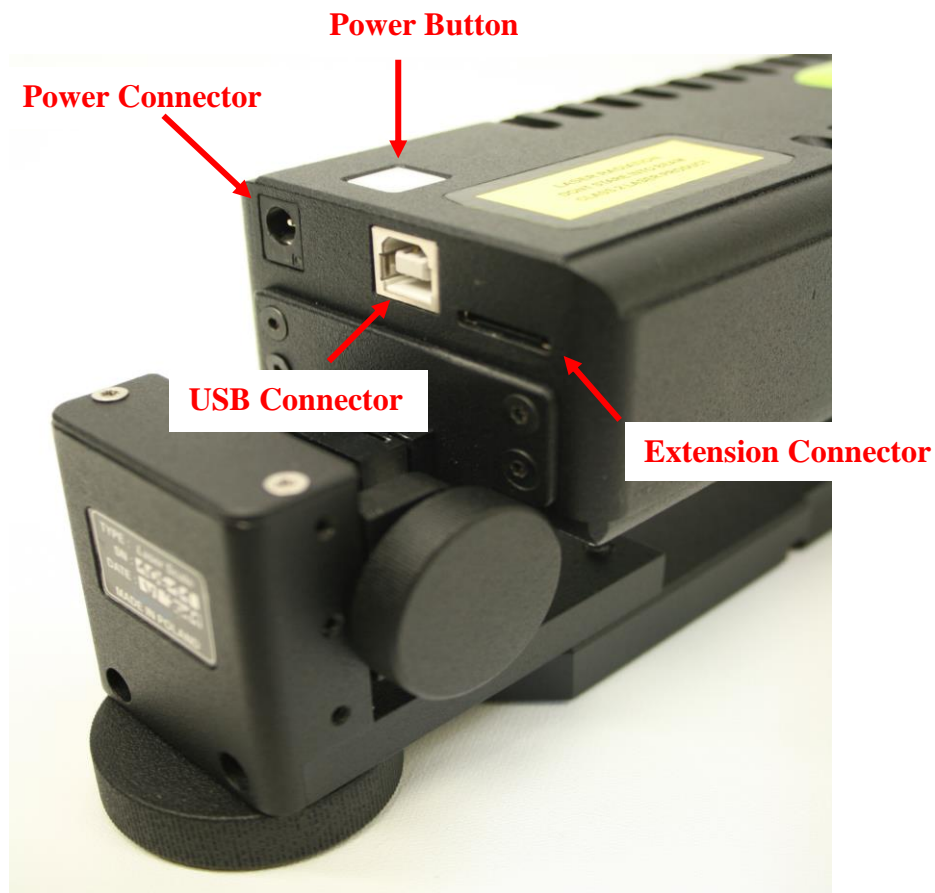
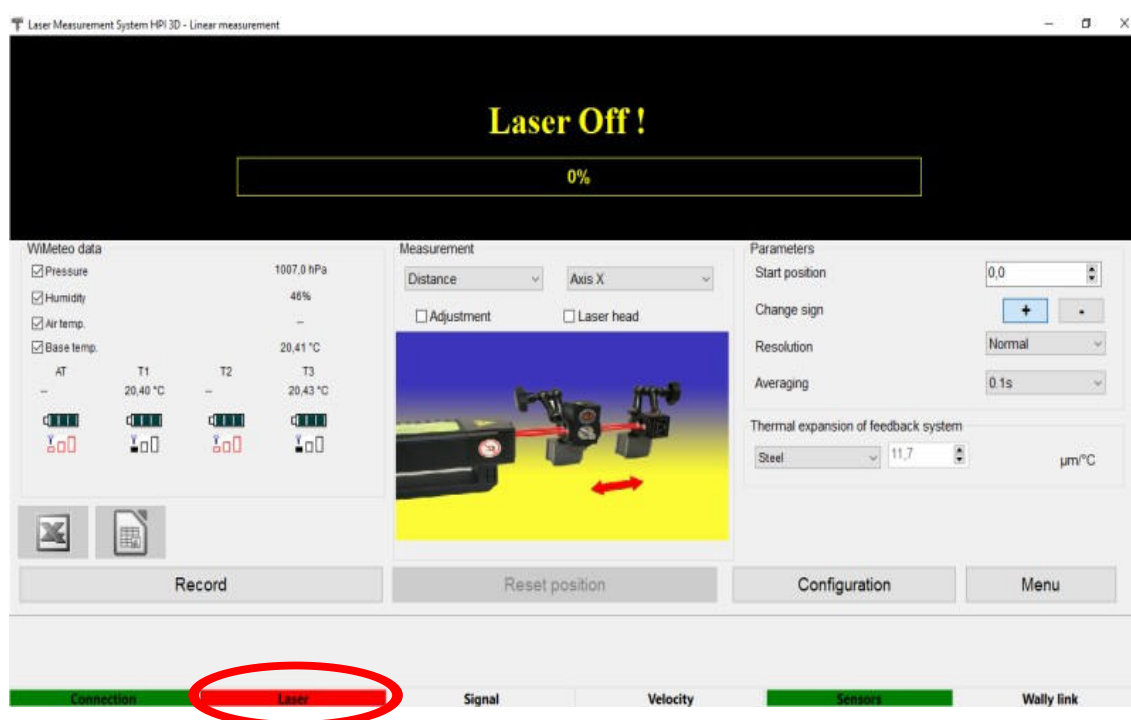

FIG.3.19. CONNECTIONS OF THE HPI-3D.
FIG.3.20. POWER SWITCH OF THE HPI-3D
If the USB connection is used then the USB cable (10) should be connected to the male socket on the back panel of the Laser Head (fig. 3.19). The second end of the cable should be plugged into the USB socket of a PC computer. For the Bluetooth connection only power connection is necessary.
The HPI-3D has only one soft-switch on the top of the laser head. Starting the laser is possible by holding the *Power Button* for 3 seconds (see figure 3.19) or from the HPI software by clicking on the bottom bar of the screen in “Laser” text (see fig. 3.20).